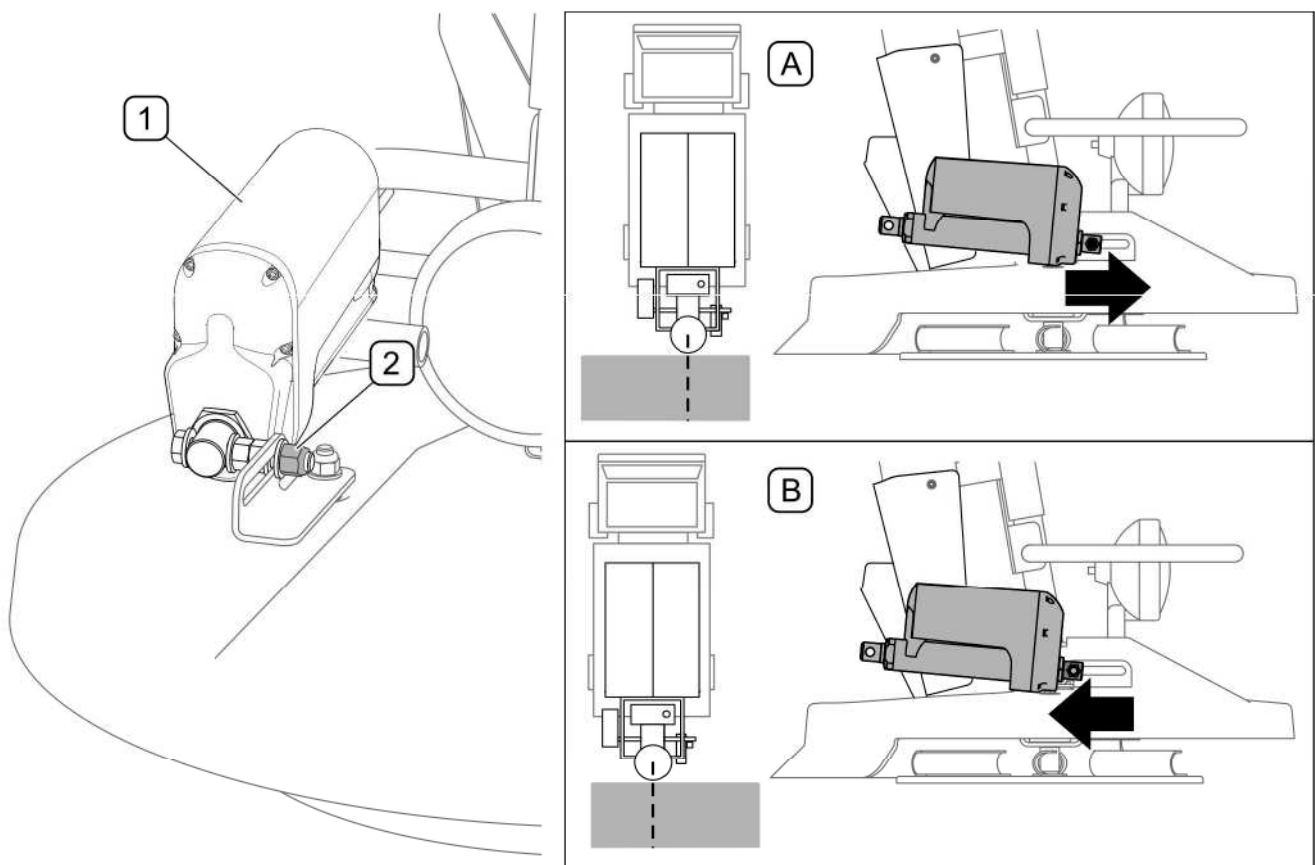

FIG. 5.8 Adjustment of spreading mechanism
In order to adjust the spreading mechanism, set symmetric 4 meter-wide spreading zone on the control panel. Activate spreading and drive a short distance at a constant speed. Stop the vehicle and check effect of spreading. If spreading to the right side and to the left side is not the same, adjust spreading direction adjusting cylinder (1) (FIG. 5.8) as follows:
- Loosen nut (2).
- Move cylinder (1) forwards if spreading zone is excessively shifted to the left (A).
- Move cylinder (1) backwards if spreading zone is excessively shifted to the right (B).
- Tighten nut (2), conduct test spreading, if necessary, repeat the adjustment.